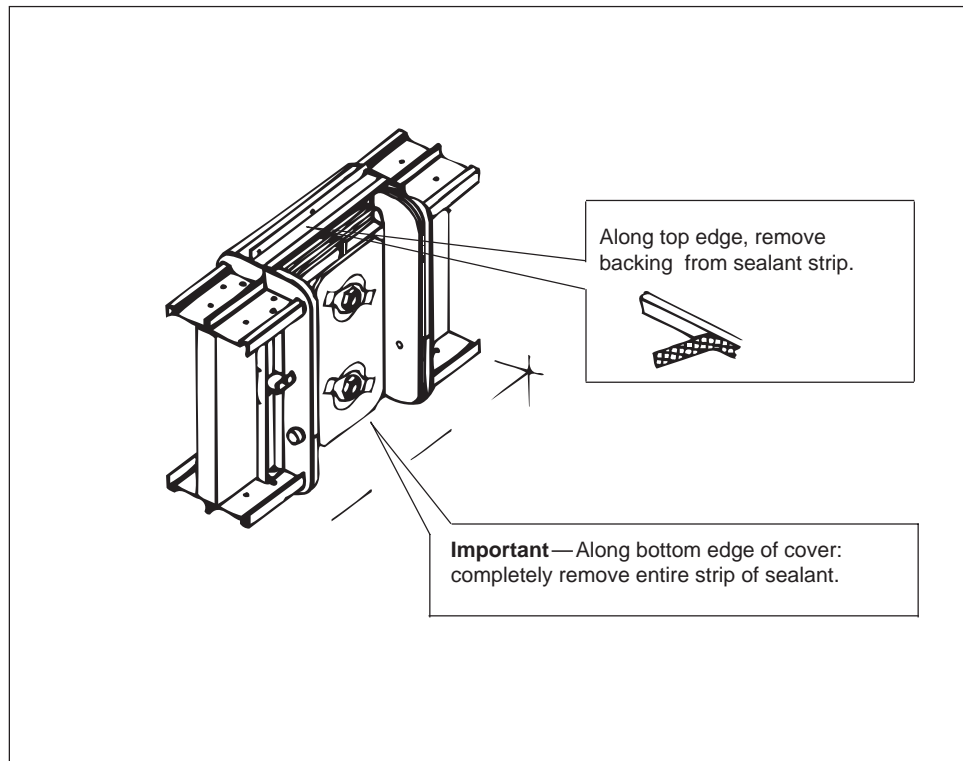

Figure 16
7. Expose the sealing strip on the cover (figure 16). The sealing strip is flush with the outside edge of the joint cover.